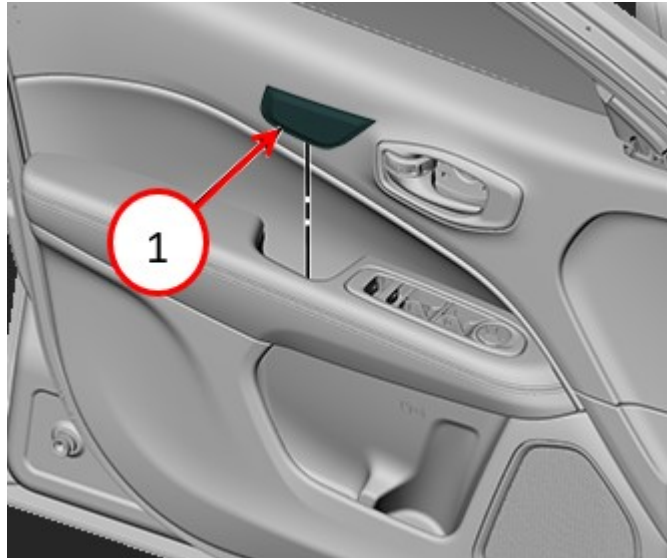

Fig. 1
1. Remove the pull cup trim mat (Fig. 1) .